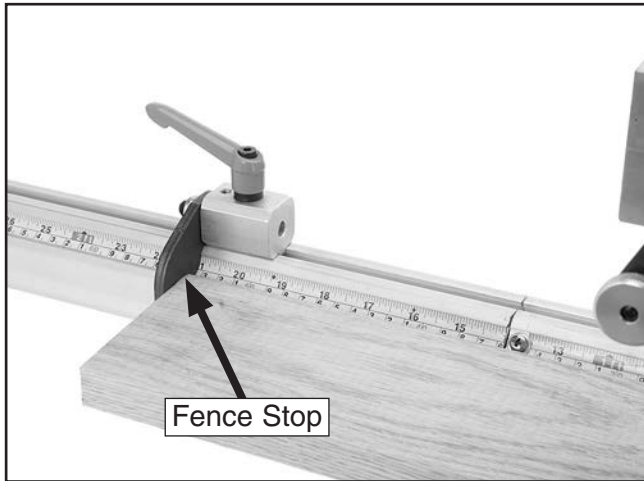

Figure 25. Longitudinal fence stop.
- Use the longitudinal fence stops (**Figure 25**) to preserve the starting point when drilling workpieces that are the same length.